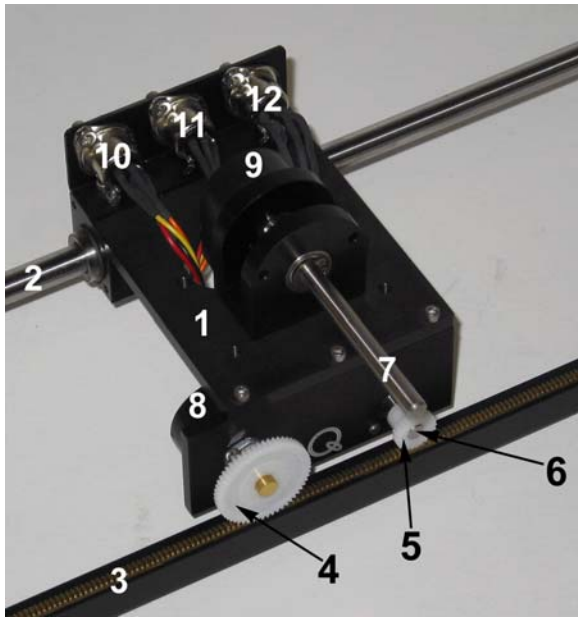
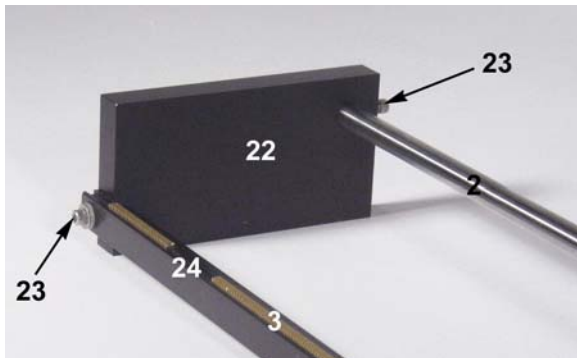
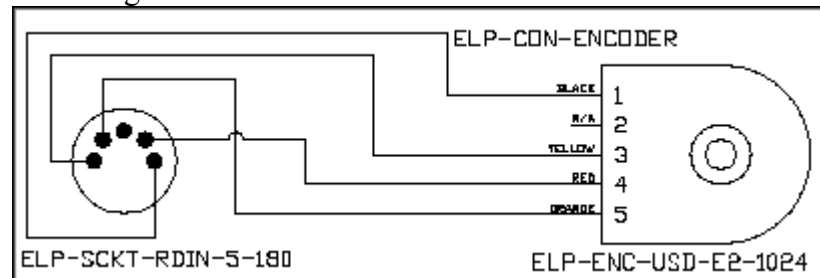

Figure 3 IP02: Front View
Figure 7 Rack Left End
Figure 10 IP02 Encoder Wiring
As a quick nomenclature, Table 5, below, provides a list of all the principal elements composing the IP01 and IP02 systems. Every element is located and identified, through a unique identification (ID) number, on the IP01 and/or IP02 systems represented in Figures 3, 4, 5, and 6, below, as well as Figures 7 and 8.
Moreover as illustrated in Figures 7 and 8 below, parts of the track are missing (feature or "component" #24) at both ends of the IP01 or IP02 rack. This feature plays the role of a hardware safety watchdog in preventing the IP01 or IP02 cart from running into one of the track's ends, which could potentially be damaging.
The supplied motor cable is designed to connect from a Quanser Universal Power Module to a 4-pin DIN connector, shown as component # 12 in Figures 3, 4, and 6, on page 7.
On the IP02, both cart and pendulum positions are measured with two optical encoders, represented in Figure 3 by components # 8 and 9, respectively. Having an encoder (as opposed
The position signal generated by the encoder should be directly connected to a Quanser terminal board (a.k.a. I/O card) using a standard 5-pin DIN cable. **DO NOT connect the encoder signal to the UPM.** The internal wiring diagram of the IP02 encoder is depicted in Figure 10. The standard 5-pin DIN connector, shown in Figure 10, is also pictured as component # 10 or 11 in Figure 3.